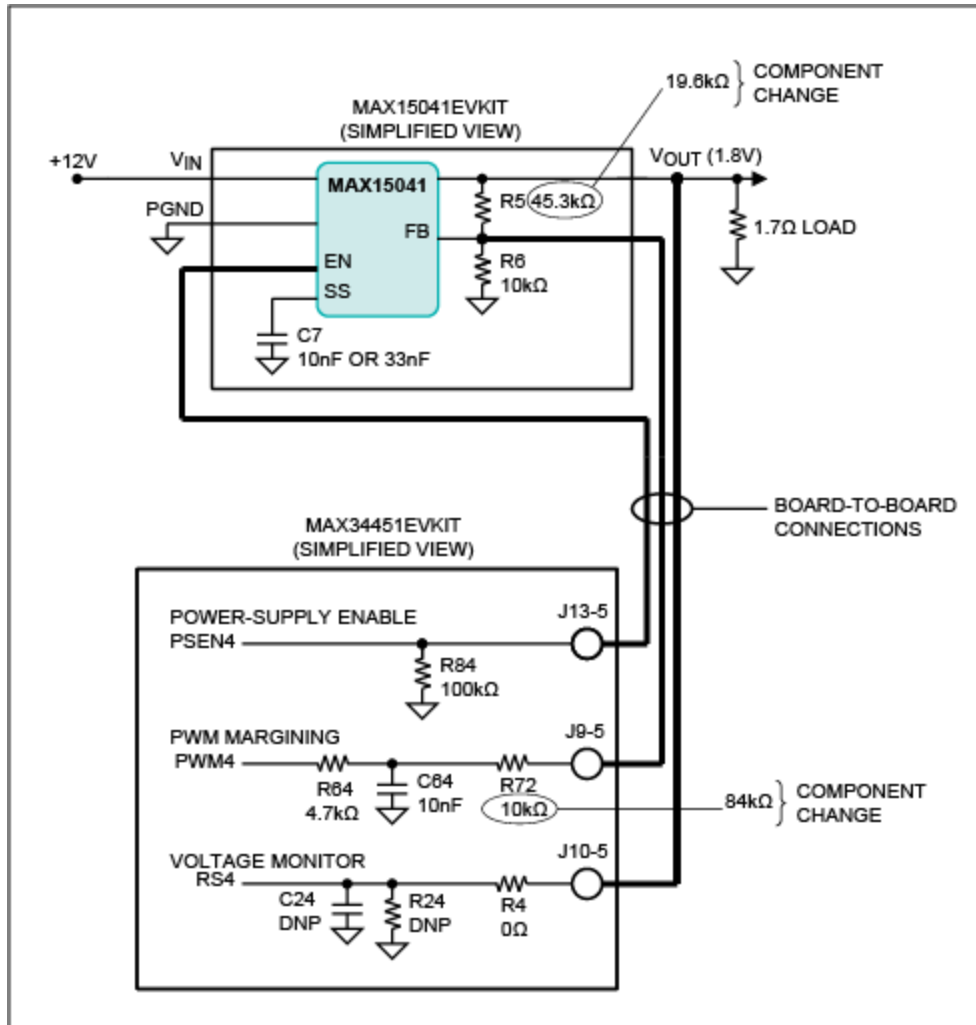

Figure 1. PWM margining test configuration.
This application note outlines the performance of PWM margining when the MAX34451 is connected to the MAX15041 evaluation (EV) kit, as shown in **Figure 1**. Several key tests were performed; the results are reported.
When using the MAX34451 to margin power supplies with the PWM outputs, the series resistor after the PWM ripple filter (R72 in Figure 1) must be sized correctly to allow the proper margining range. How to select the proper resistor value is detailed in the MAX34451 data sheet, as well as in Equation 1 below.